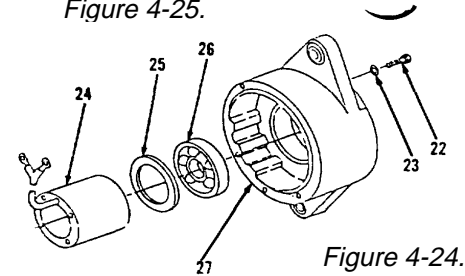
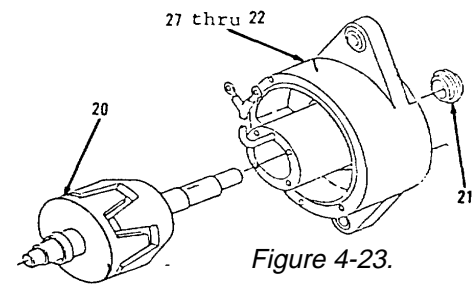

Figure 4-24.
Figure 4-23.
15. Install bearing (26) and ring (25) in inner frame (27, Figure 4-24).
16. Position field coil (24) in inner frame (27) and install field coil (24) wire assembly. Secure in deep groove of inner frame (27) with caulking compound.
17. Install six lockwashers (23) and screws (22).
18. Install spacer (21, Figure 4-23).
19. Position rotor (20) in press.
20. Install rotor (20) in inner frame (27), supporting spacer (21). Use 24 volt (3 watt) test lamp of 3 watt resistor and connections to magnetize rotor (20).